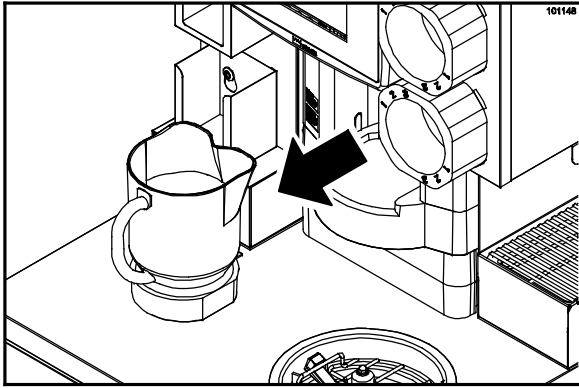

Figure 46
12. Remove the blender pitcher and discard the ice into the back sink. (See Figure 46.)